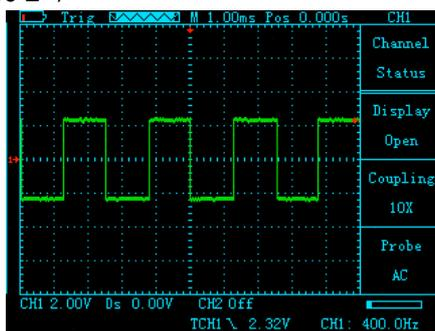

Figure 2-6
- Press "CH1" → "Display ON", set the CH1 channel waveform display. As Figure 2-6